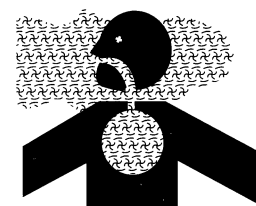

Figure1-37
- Inhaling into or contacting with the aether can injure you. (Figure 1-37)